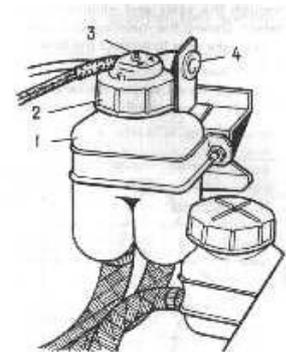

Fig 58. Brake fluid reservoir.
Every 10,000 Km check the fluid level in reservoir 1 (Fig. 58), which should be as high as the lower edge of the filler neck with cap 2 installed. Add only brake fluid Hesa or ToML. Depress pusher 3 on the reservoir cap to check the fluid level transmitter for proper functioning; with the ignition switched on the warning lamp should be constantly alight. It is recommended to replace the brake fluid after 5 years of operation.
1. Unscrew the reservoir cap (Fig. 58) and add some fluid up to the normal level.